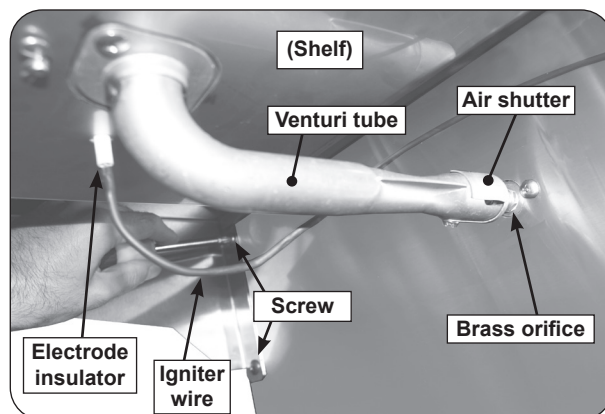

Fig. 22-1 Burner shelf setup (under shelf view)
2. Hold the sideburner shelf up against the left side wall of the grill so that the holes in the shelf line up with the four (4) threaded screw holes in the side wall and the air-shutter end of the sideburner venturi tube fits around the brass orifice protruding from the side of the cart. See Fig. 22-1.
3. Insert and start screws with fingers and then tighten using a Phillips screwdriver. See Fig. 22-1.